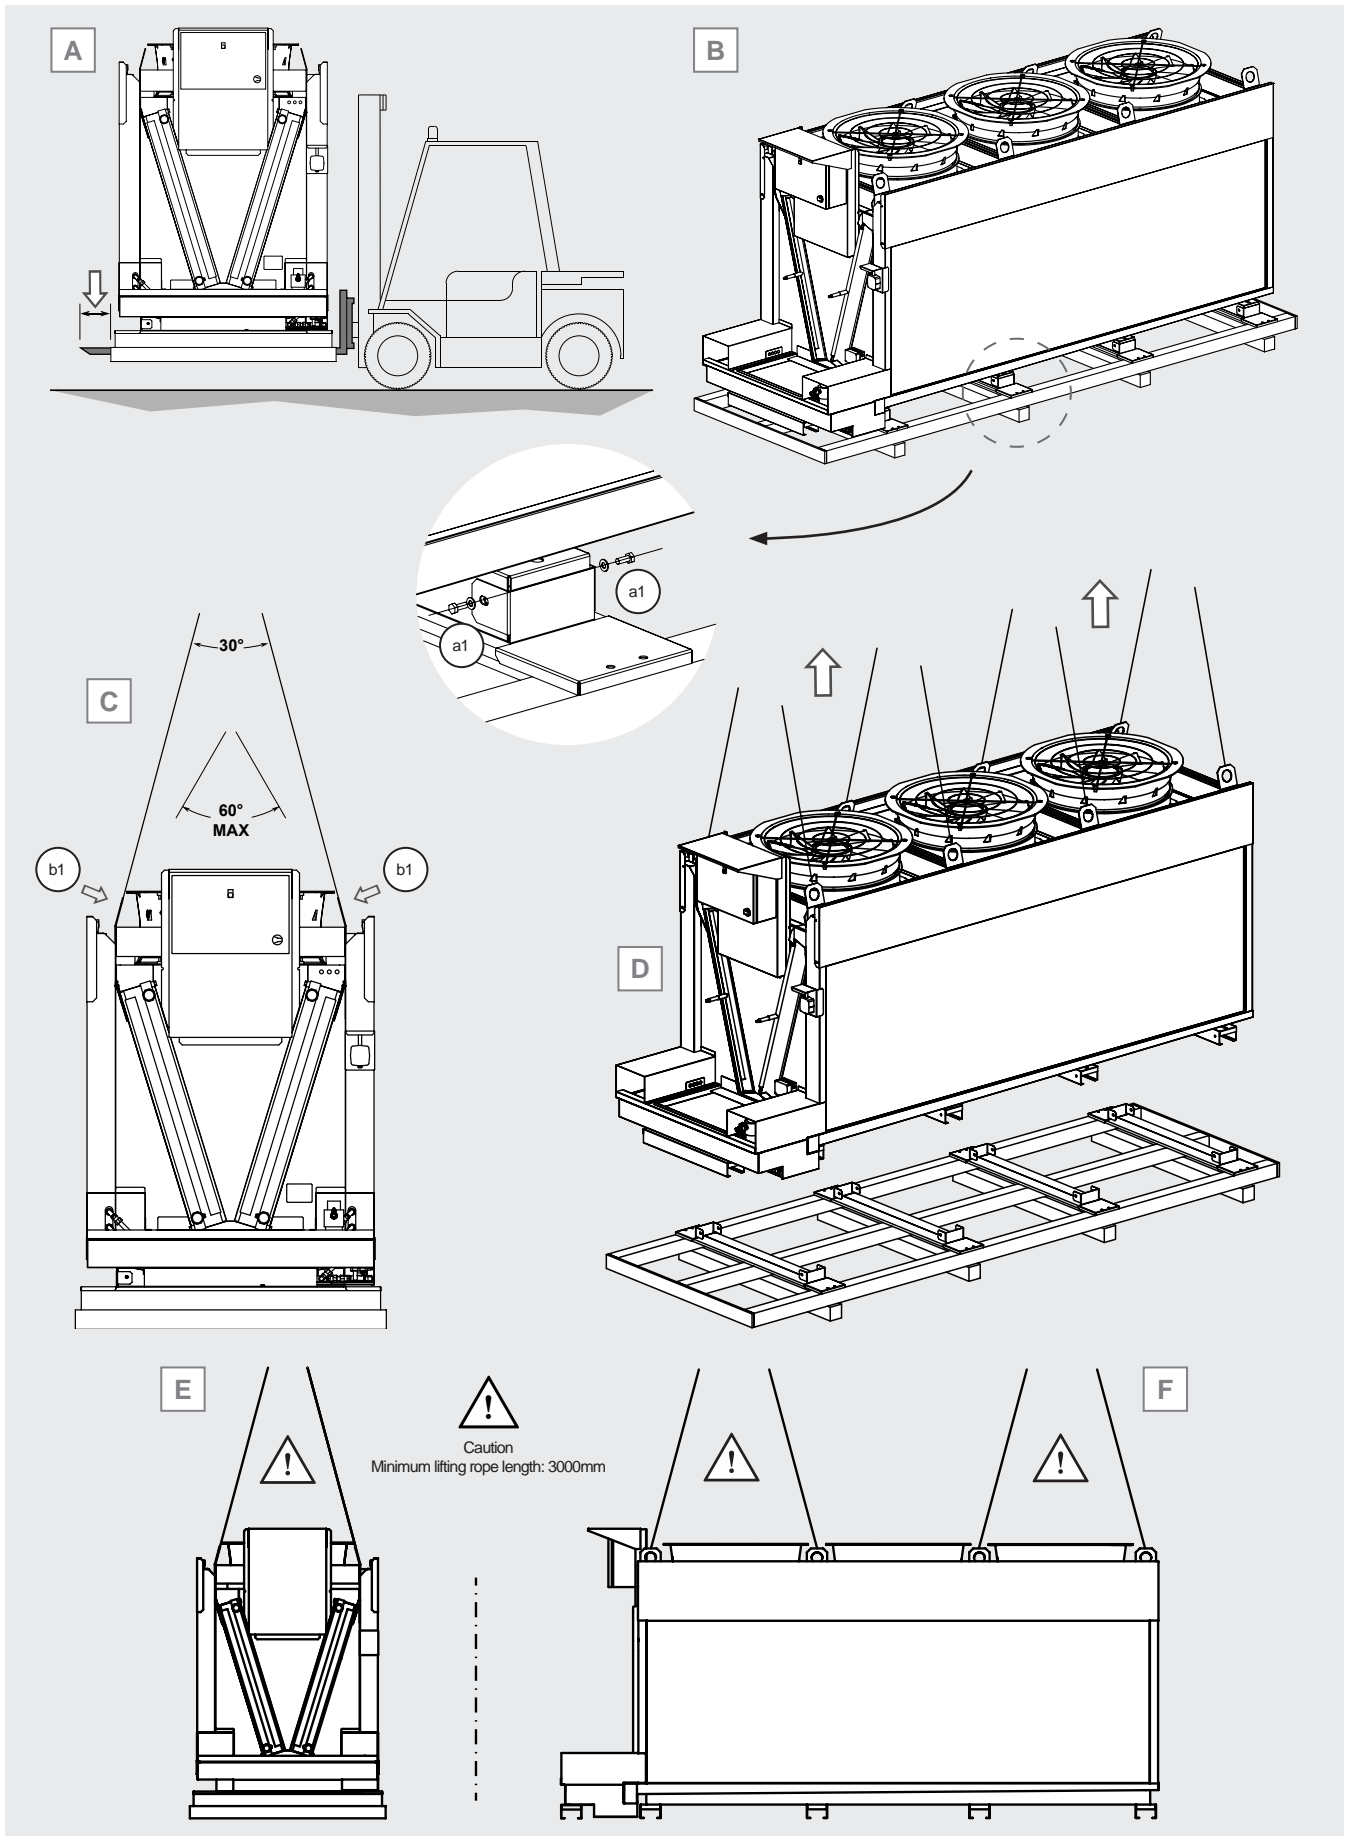

Figure 5
- 5.2 For loading and unloading operations from the transport vehicle using a forklift truck, the lifting brackets must be longer than the depth of the packaging and/or model, see Figure 5 A.
- 5.3 For loading and unloading operations from the transport vehicle using a crane or overhead crane, the equipment must be attached to the lifting points as specified in Table 2. Refer to Figure 5 C. Note: to facilitate loading and unloading operations only, it is permissible to use just 4 lifting points.
- 5.4 For pallet removal prior to model installation, unscrew the screws (a1) that secure the model's support brackets to the transport pallet, see Figure 5 B.
- 5.6.1 attach the crane or overhead crane to the lifting points (b1), see Figure 5 C;
- 5.6.2 lift the model and place it in its final location. Use all lifting points. See Figure 5 D.
For loading and unloading the unit from the transport vehicle and for handling operations, lifting slings and spreader beams must be used. Spreader beams may be applied either longitudinally or transversely; refer to Figure 5 E and F.